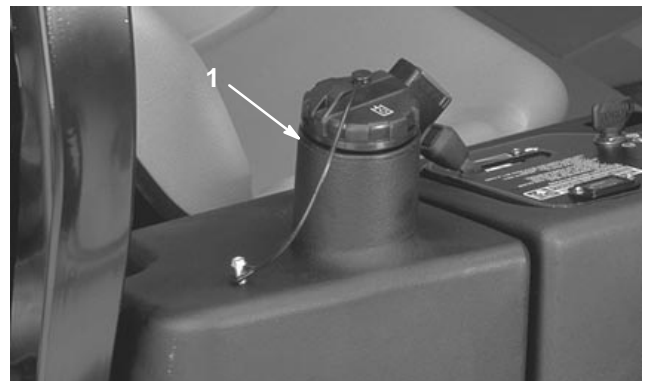

Figure 56
3. Fill the reservoir (Fig. 56) with approximately 3.5 U.S. gallons (13.2 l) of hydraulic fluid; refer to Checking the Hydraulic System, page 18.